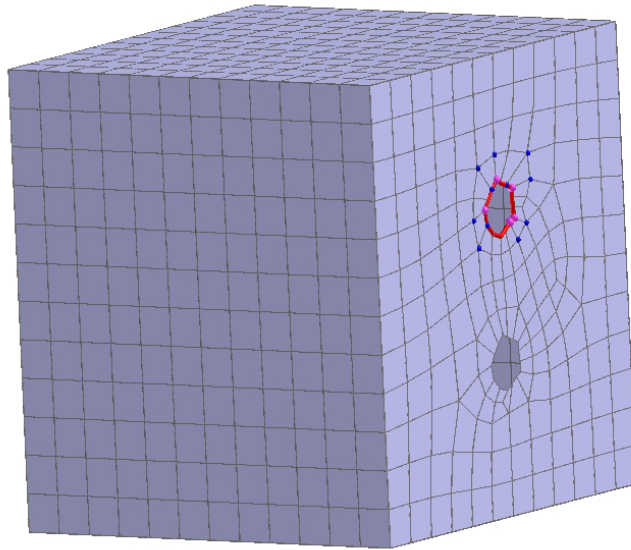

Figure A.37 Pick nodes to create a seam.
- Pick the nodes until you see a circular seam following the edge of the hole as shown in Figure A.37.